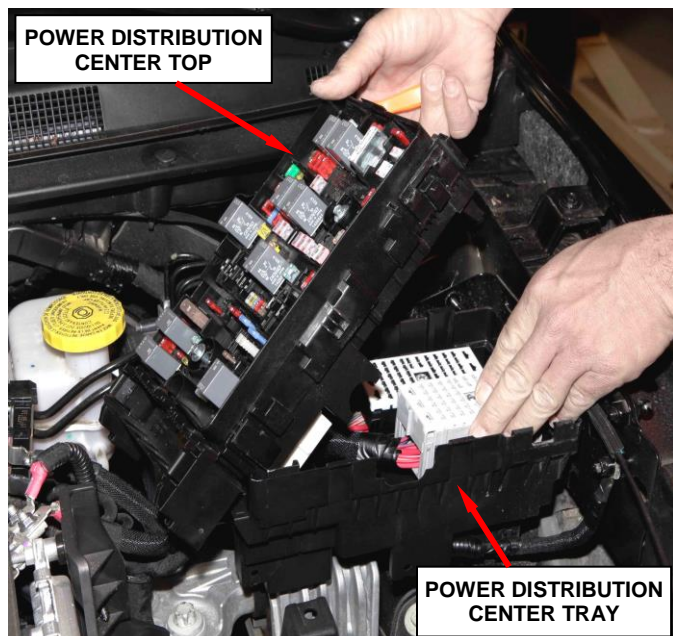

Figure 6 – PDC Top Cover
8. Release the plastic PDC retaining clips and lift the PDC top from the PDC tray (Figure 6).